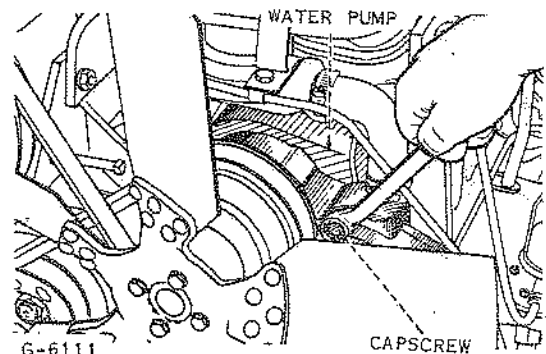

Fig. 28
2. Remove four mounting capscrews from water pump (Fig. 28). Remove water pump from front end of cylinder head.